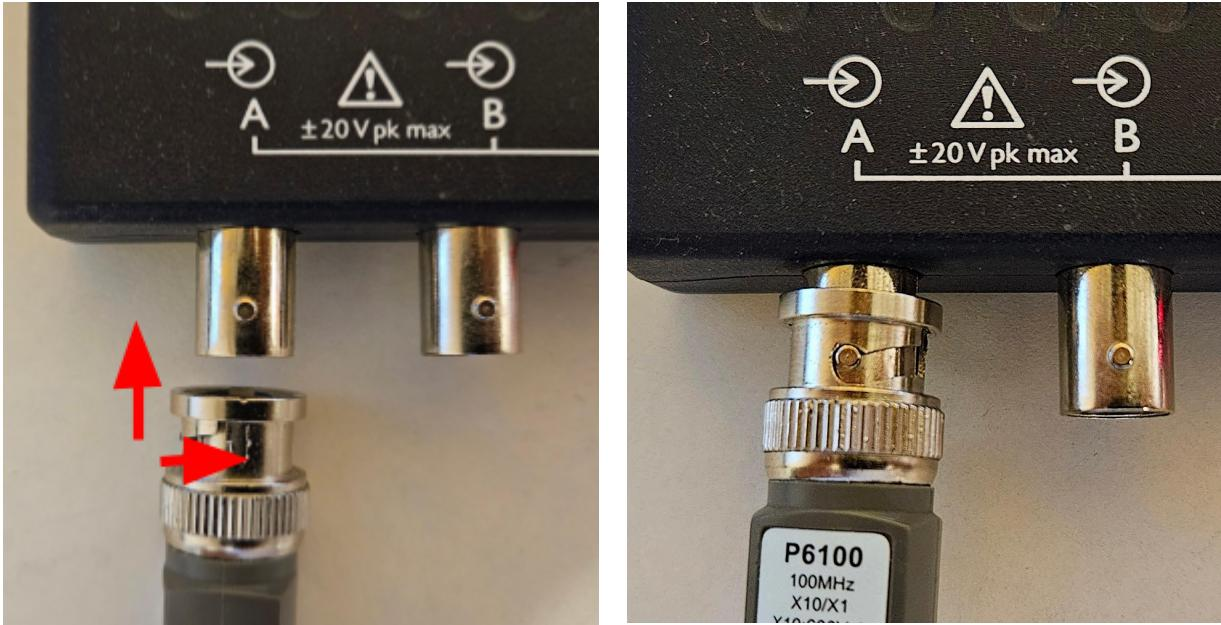

Figure 6: BNC connector connected to the PicoScope
4. BNC Connector: Finally, Figure 6 shows the BNC end of the probe, which plugs into the input port on the PicoScope.
2. Then twist the connector clockwise until it clicks into place, as shown in Figure 6.